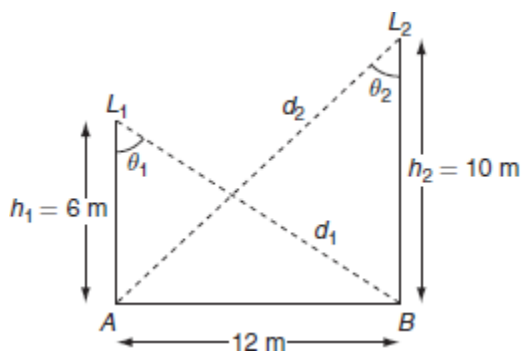

Fig. P.6.10
1. The illumination at 'B' = the illumination due to L_1 + the illumination due to L_2 . Form Fig. P.6.10: